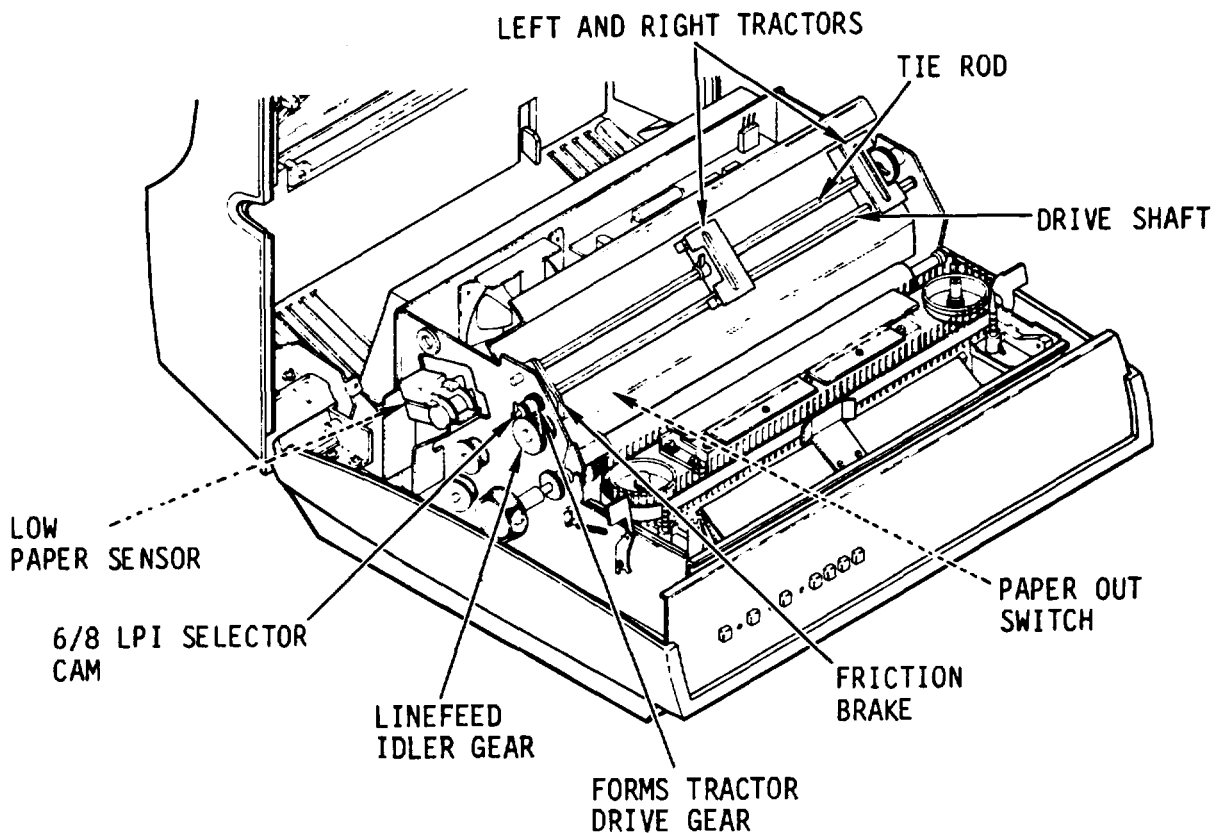

Figure 2-7. Paper Handling Components
(3) The swinging of a hammer against a type finger is electronically controlled by a timing process which uses an electronic buffer storage and counting system. When a character printout is selected by input data, the line printer buffers or stores the input data and permits multiple hammer firing when selected type fingers are in the correct position.
(4) The solenoids are mounted and spaced uniformly in banks on the coil bar assemblies. There are four coil bar assemblies mounted parallel to each other with an angular displacement. The bars are supported at the ends of the belt pulley castings.
(5) The solenoid plunger enters a hole in the top member of the coil bar. The bottom portion of the coil bar has a threaded hole to receive a threaded solenoid pole piece. The penetration of the pole piece in the coil bar is adjustable, and its position or depth is secured by a locking nut. This allows a travel adjustment of the upper plunger. The timing process of activating a hammer is effected by the photocell position. The time from coil energization to hammer strike is approximately 1.3 milliseconds. When the hammer is at rest, it is held against the hammer backstop bracket by the hammer return spring.
(6) A narrow belt which rotates about a second set of pulleys directly on top of the print belt pulleys serves as a traveling rebound belt for the print fingers. The traveling rebound belt and the rebound bar act as a stop for a type finger after a character has been printed. This prevents the type fingers from oscillating and snagging on the hammers.
d. Paper Handling Components. The paper is moved through the printer by the interaction of paper handling components (fig. 2-7) which consist of the right and left tractors, tie rod, drive shaft, friction brake, 6/8 lines per inch (lpi) selector cam, low paper sensor, paper out switch, and platen.